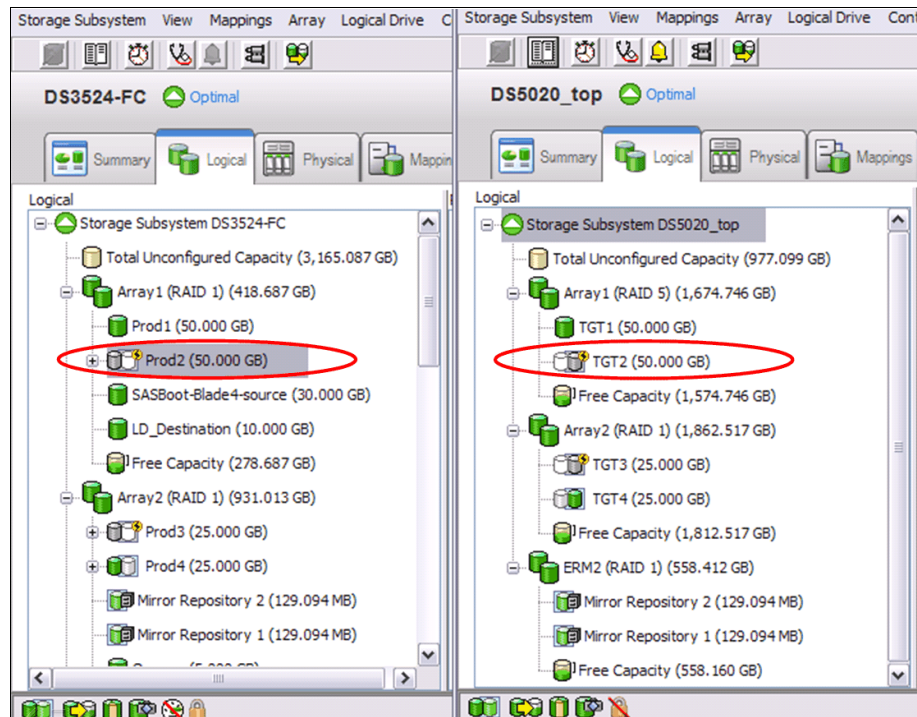
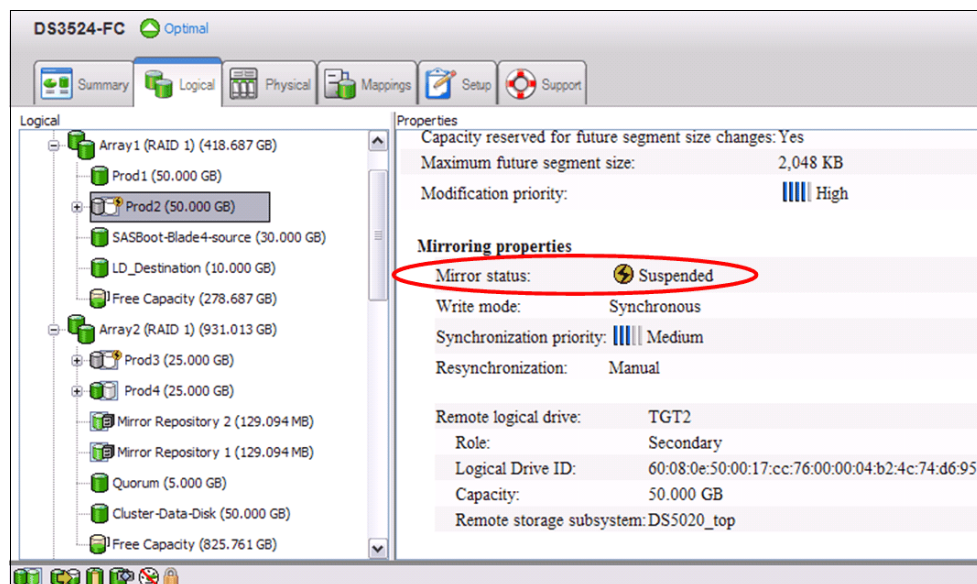

Figure 5-42 Suspended mirrored logical drives on primary and secondary storage servers
Figure 5-43 Suspended state
5. The suspended logical drives are indicated in the logical view of the Storage Management window, as shown in Figure 5-42, and in the Logical Drive Properties (Mirroring tab), as shown in Figure 5-43 on page 193.